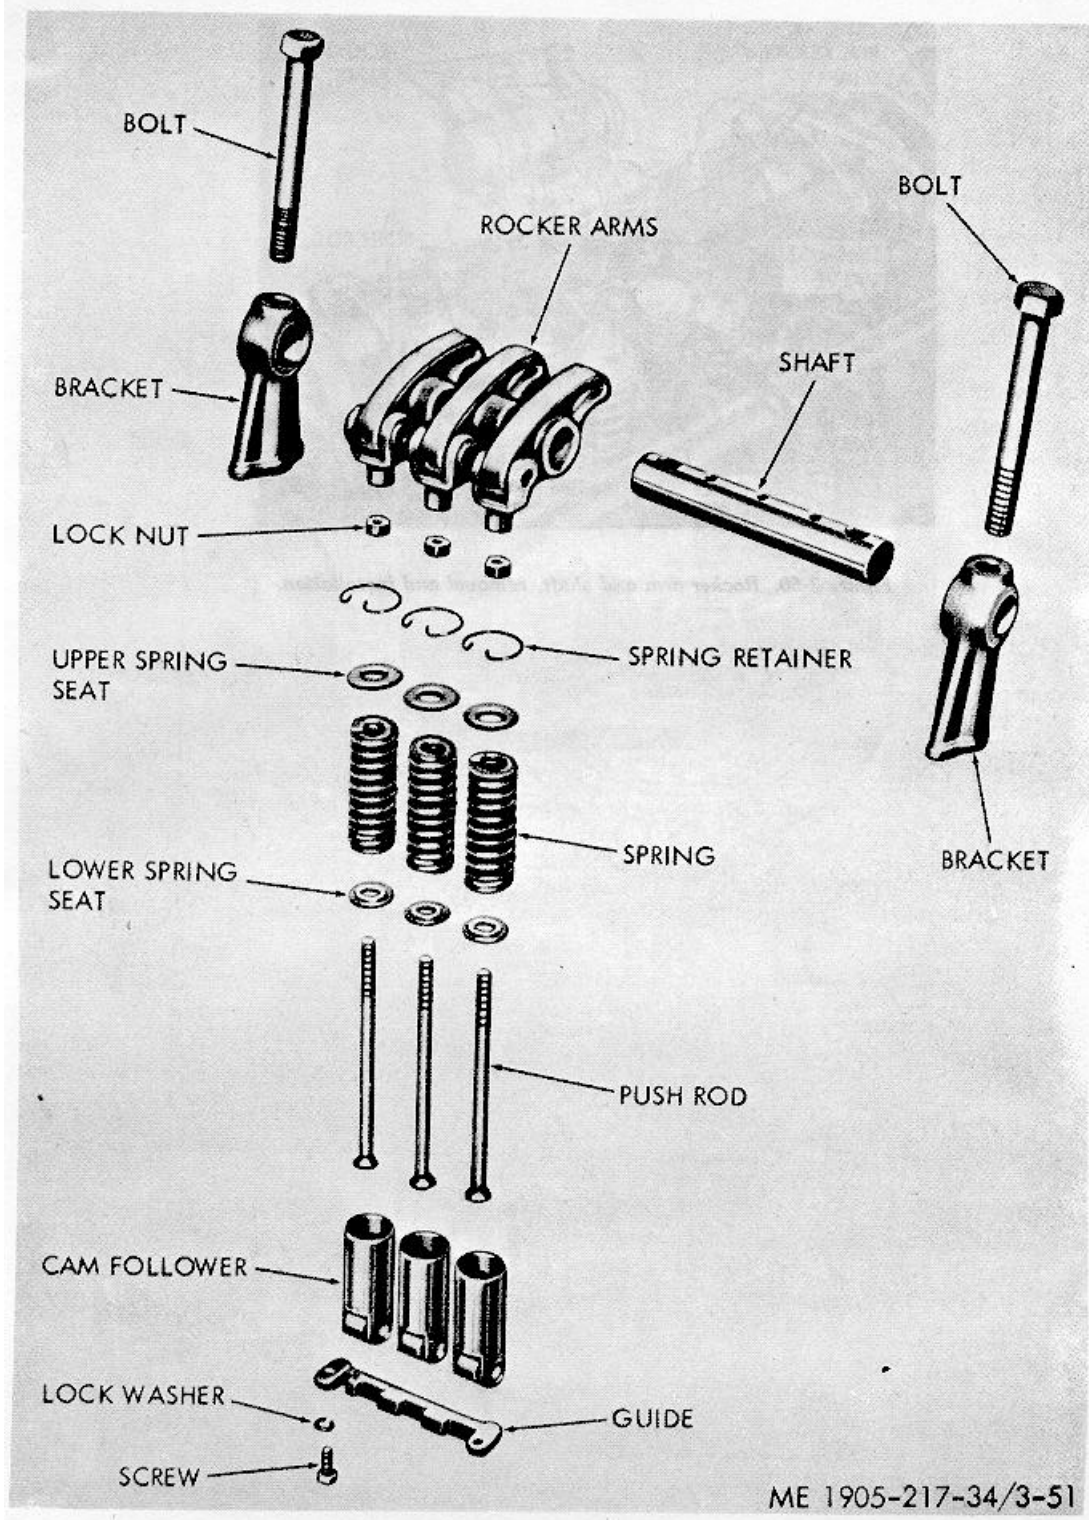

Figure 3-51. Rocker arms, cam followers, and push rods, disassembly and reassembly.
(d) Loosen the locknut at the upper end of the push rod (fig. 3-51), next to the clevis and unscrew the rocker arm from the push rod. Remove all rocker arms in the same manner.
(f) Remove the push rod lock nut, upper spring seat, spring, and lower spring seat from the push rod for cleaning and inspection (fig. 3-51).
- (4) *Repair.* Replace damaged or defective cam followers and push rod assemblies as required.
- (5) *Installation.*
- (a) Assemble the lower spring seat, push rod spring, upper spring seat, and locknut on the push rod (figure 3-51).